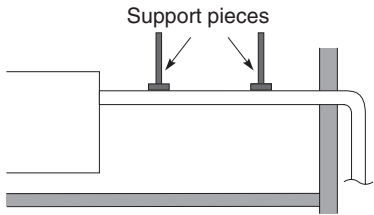

Fig. 3-17
- Do not apply force to the piping on the unit side when connecting the drain pipe. The pipe should not be allowed to hang unsupported from its connection to the unit. Fasten the pipe to a wall, frame, or other support as close to the unit as possible. (Fig. 3-17)